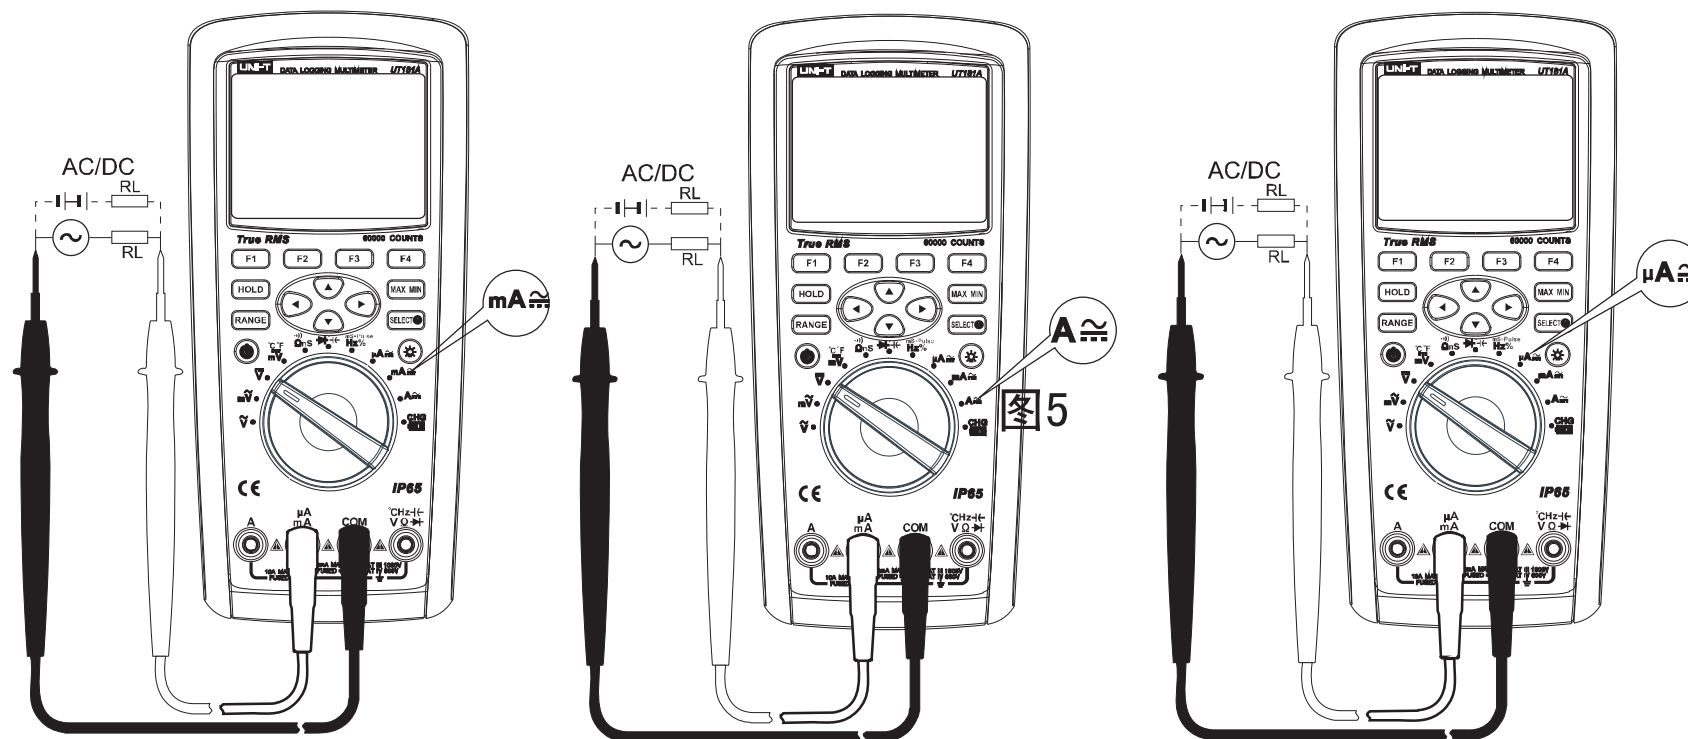

Figure 7
- Set the rotary switch to the position as shown in Figure 7. Press the key SEECT to select the required AC or DC to be measured. Connect the test leads to the test circuit in series.